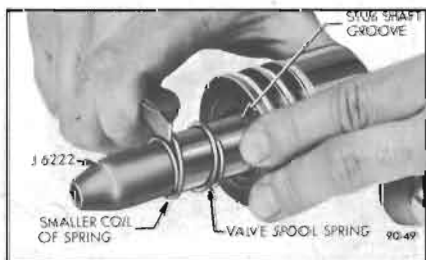

Figure 90-49—Installing Valve Spool Ring
5. Place Seal Protector J-6222 over stub shaft and slide valve spool spring over stub shaft with smaller diameter coil going over end of shaft last. See Figure 90-49. Work spring on shaft with a small screwdriver until small coil of spring is seated in the stub shaft groove. Be careful not to damage surface of shaft.